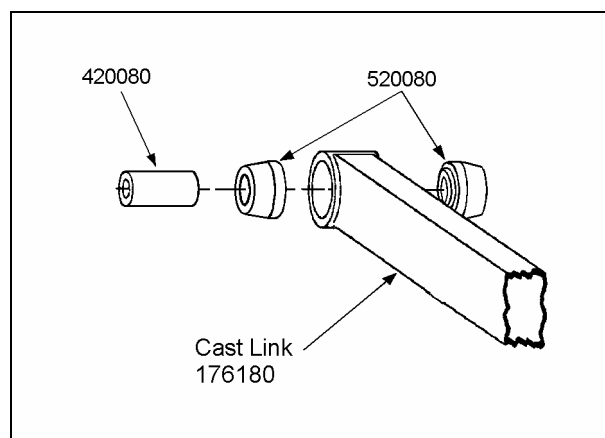

Figure 1
- 2) ☐ Press the lubricated bushings into one end of a new Rancho cast link (176180) as shown in figure 1.